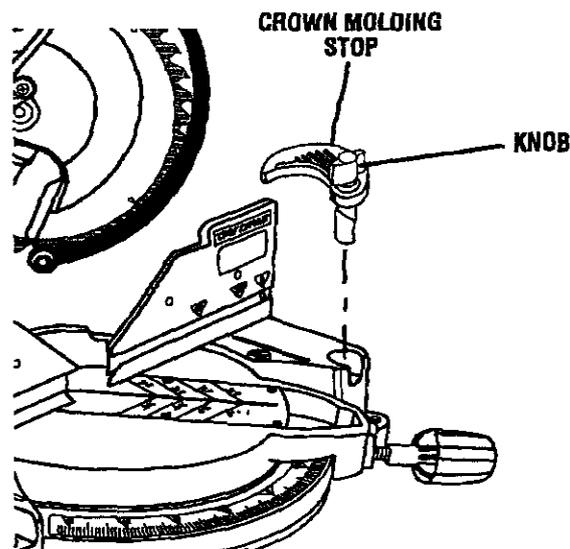

Fig. 41
See Figures 41 and 42.
- Place the stop in the hole on either the left or the right side of the saw's base. See figure 41.